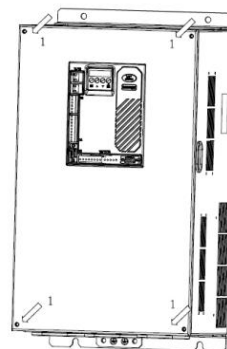

Figure 2-11 Install the cover
- ① Cramp the cover as shown in the Figure2-11.
- ② Then tighten the cover screws.